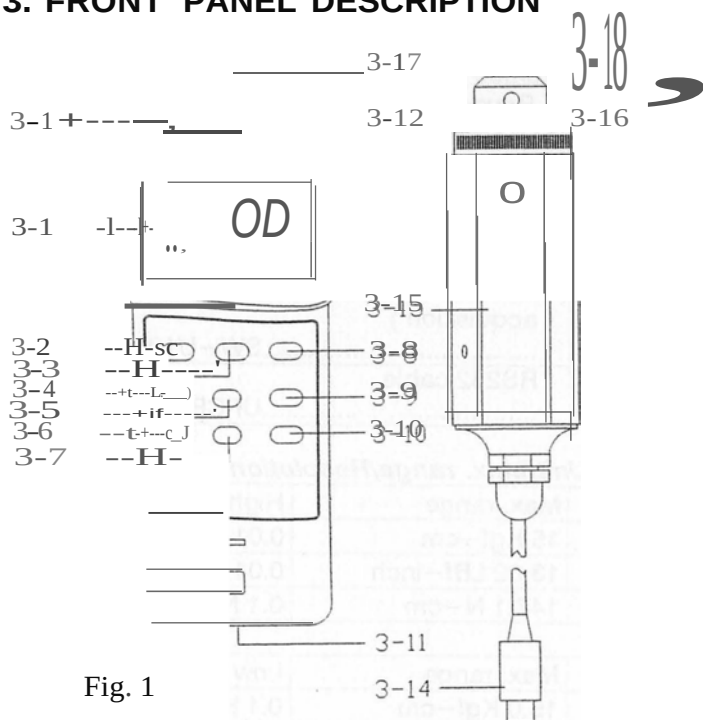

Fig. 1
- 1) Plug in the " Sensor Cable Plug " (3-14, Fig. 1) to meter's " Sensor Input Socket " (3-12, Fig. 1).
- 2) Power on the meter by push the " Power Button " (3-2, Fig. 1).
- 3) Push the " Sensor Type Button " (3-8, Fig 1) to check if the meter's sensor type is same as the external torque sensor.
Push the " Unit Button " (3-5, Fig. 1) to select the unit Kgf -cm, LBf -inch or N-cm (Newton -cm).
Push the "Resolution Button " (3-7, Fig. 1) to select the High resolution or Low resolution.
The " Fast/Slow Button " (3-10, Fig. 1) is used to select the fast sampling time or slow sampling time.
7) To connect the " Cramp " (3-17, Fig. 1) to the measured installation and use the " Opinion " (3-18, Fig. 1) to lock the " Gear " (3-16, Fig. 1). Ref. Fig. 2 & Fig. 3.
Before the measurement, if the meter not show zero value, it can push the "Zero Button" (3-9, Fig. 1) to tare the display value, the LCD will change to zero value.
During the measurement, push the "Peak Button" (3-6, Fig. 1), the LCD will show the "PEAK" indicator & the display will hold the peak value.
During the measurement, pushing the "Hold Button" (3-3, Fig. 1) will freeze the measured value & display will indicate "HOLD" symbol. Push the "Hold Button" again to release the data hold function.
- * The DATA RECORD function displays the maximum and minimum readings. To start the DATA RECORD function, press the "Max./Min. Button" (3-4, Fig. 1) once. "REC" symbol will appear on the LCD display.
- (a) Push the "Max./Min. Button" (3-4, Fig. 1) once, the "Max" symbol along with the maximum value will appear on the display.
To disable this feature, Select the memory record function during measurement, by pressing the " **Max./Min.** " button (3-4, Fig. 1).
The instrument features an RS232 output via 3.5 mm Terminal (3-13, Fig. 1).